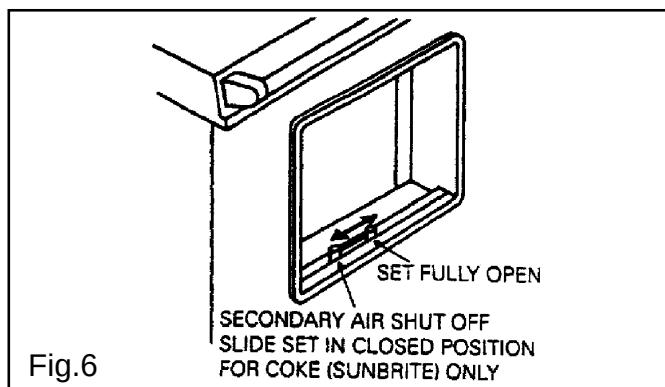

Fig.6
- With fire established, open firebox door and fill firebox with fuel. Check secondary air slide setting (Fig. 6). **Close and lock firebox door.** Push flue chamber damper back to position which has been found to give desired burning rate.
- With the fire established open the firebox door and fill firebox with fuel. Check secondary air slide setting (Fig. 6). **Close and lock the firebox door.** Push the flue chamber damper back to position which has been found to give best results. Set spinwheel control to give desired burning rate.